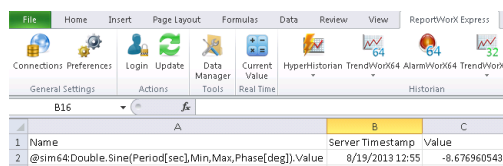

Figure 2 – Current Value
6. To view report data in the selected output range of the Microsoft Excel spreadsheet, update the report: . Your results should look similar to Figure 2.